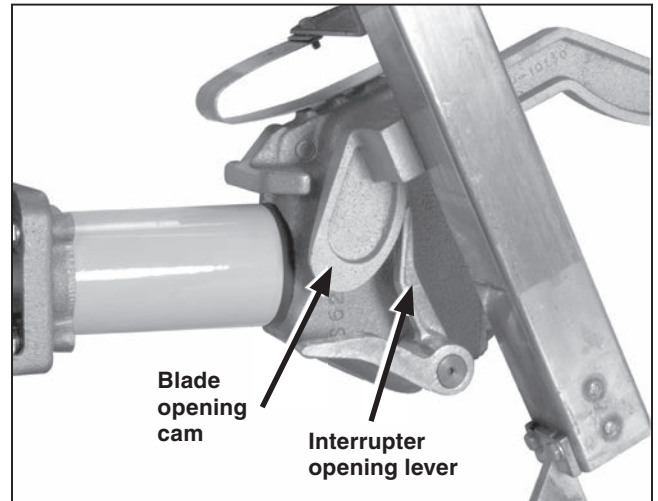

Figure 38. Blade assembly moving in the opening direction.
- (d) Move the blade in the *opening* direction and verify that each blade shunt contact firmly engages its respective interrupter housing before the blade contacts disengage from the stationary main contact assemblies. See Figure 38. The shunt contacts may be bent as required to conform to these conditions.